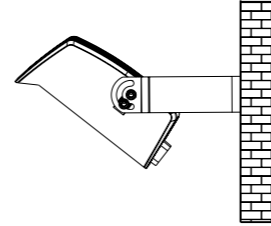

Figure 4.4
STEP 3: Loosen screw; Adjust fixture angles as per actual demands and tighten screws later. (Figure 4.4),Tips:Angles of the fixture is adjustable